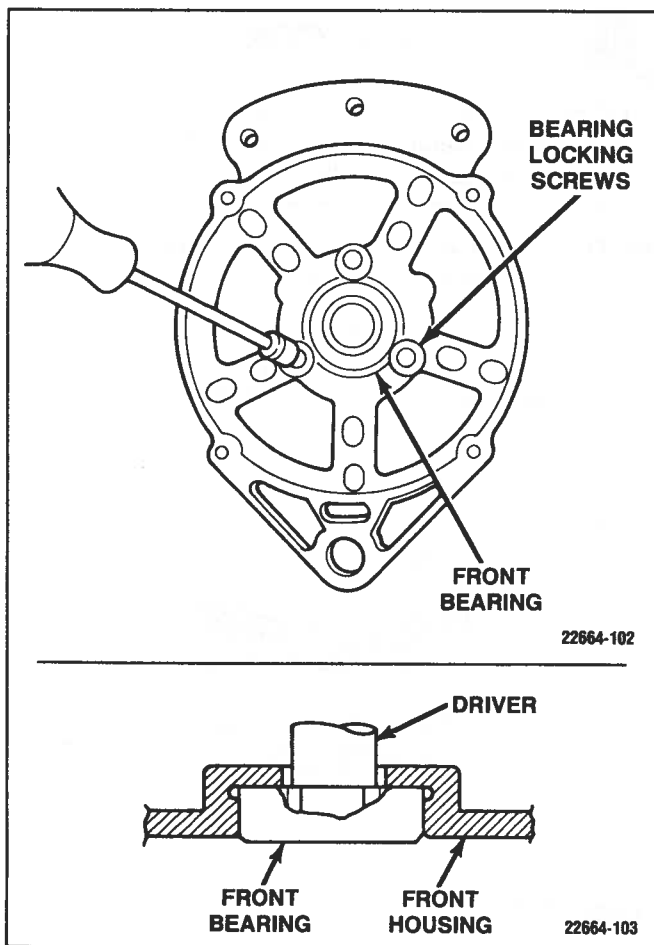

Figure 6-128. Front-Housing Bearing Removal
15. After removing the three bearing-locking screws, carefully press the front bearing from the housing. Press against the inner race of the bearing as shown. (Figure 6-128)